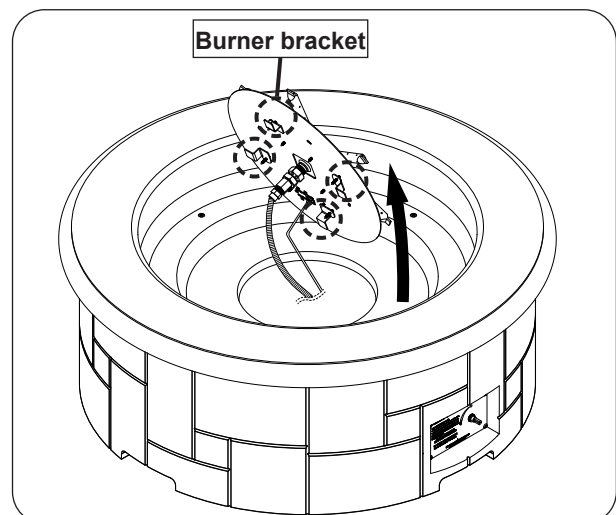

Fig. 30-3 Remove burner and valve assembly
3. Use a $\frac{5}{16}$ " nut driver to partially unfasten the four screws found on the burner assembly. Then carefully remove the burner and valve assembly and set it off to the side. See Fig. 30-3.